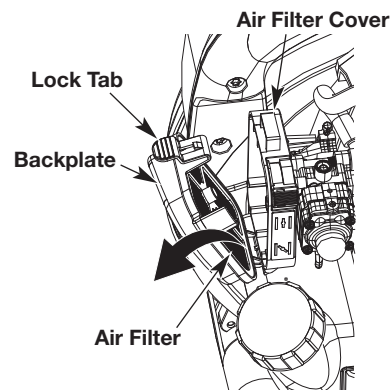

Fig. 12
1. Open the air filter cover: press in the lock tab and swing the backplate straight down (Fig. 12).
6. Reinstall the air filter (Fig. 12).
7. Swing the air filter cover backplate up until it snaps into place on the cover (Fig. 12).